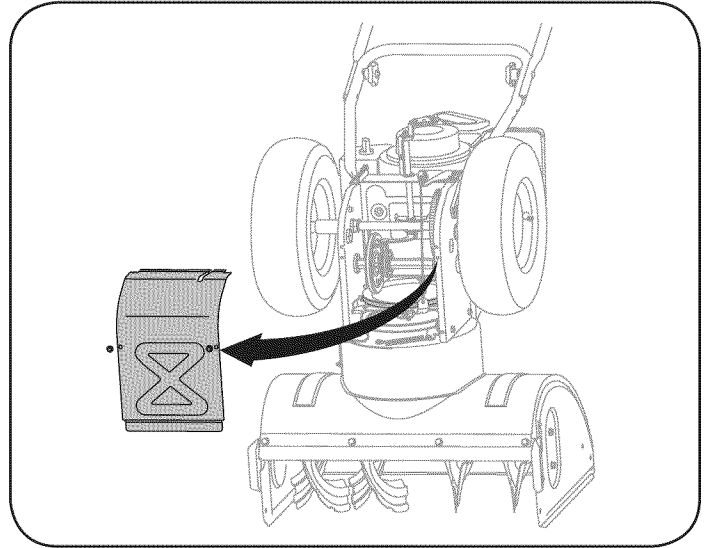

Figure 29
5. Remove the frame cover from the underside of the snow thrower by removing the self-tapping screws which secure it. See Figure 29.
5. Remove the frame cover from the underside of the snow thrower by removing four self-tapping screws which secure it. Refer to Figure 29.